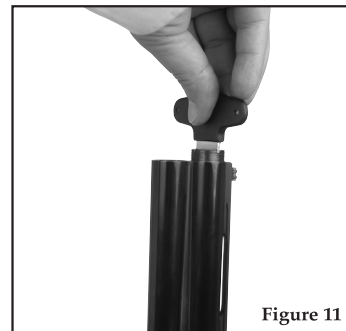

Figure 11
- 2) Remove a choke tube by inserting the choke key, and turning it counter clockwise. (Fig. 11)